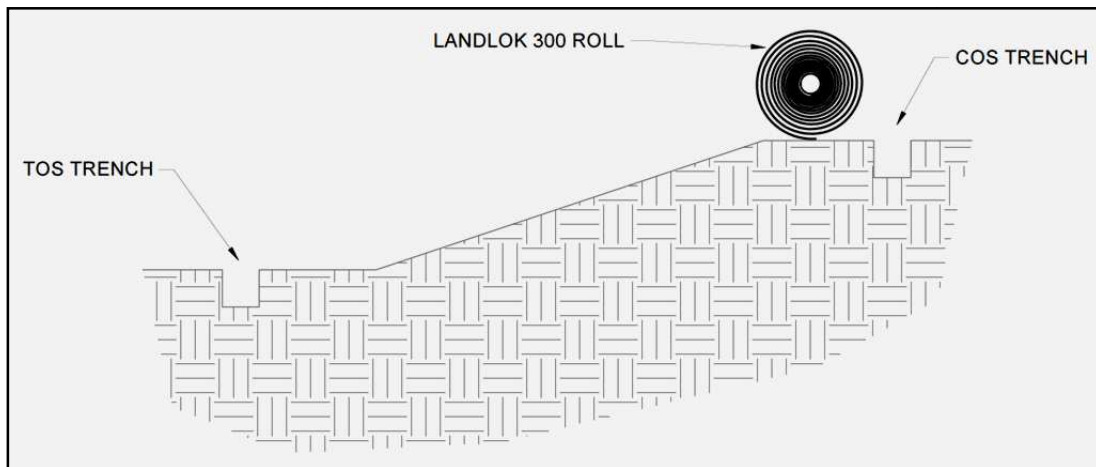
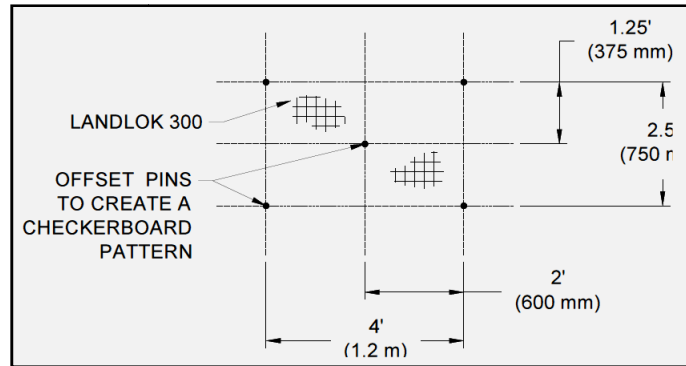
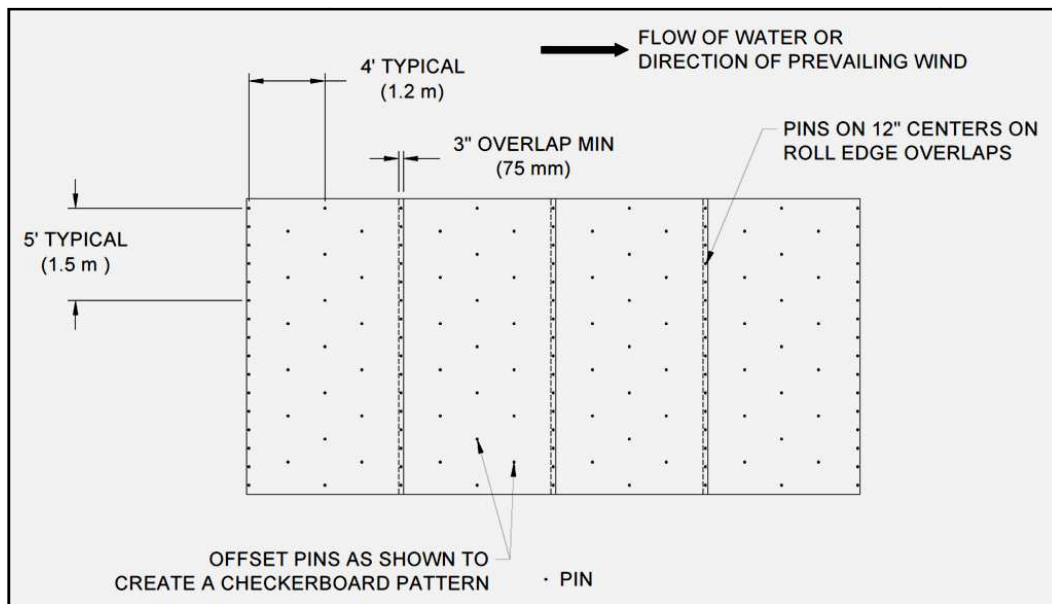

Figure 3: Crest of Slope (COS) Trench Alignment
Figure 7: Example Pin Pattern
Figure 8: Example of Panel Overlap
2. Starting at the COS trench, lay Landlok 300 roll so that the roll ends point towards the crest of the slope (Figure 3), with a 3 inch (75 mm) overlap created at adjacent panel edge locations. Ensure that adjacent panel edges maintain a minimum 3 inch overlap during *Landlok 300 Laydown*. (Figure 8)
6. Secure Landlok 300 panels in place using pins across the slope surface according to the project's engineered design. Pin placement should reflect a staggered checkerboard pattern across the slope surface for best results (Figure 7 and Figure 8).
- Roll edges shall be overlapped a minimum of 3 in (75 mm) with pins placed on 12 in (300 mm) centers (Figure 8).
9. Continue to work down the length of the slope by repeating steps 1 through 8 overlapping each adjacent Landlok 300 panel by 3 inches (75 mm) (Figure 8). The last Landlok 300 panel should terminate on the Slope Armoring Edge (SAE) with pins on 12 in (300 mm) centers. At a minimum, Landlok 300 panels should be pinned entirely across the slope surface, pins should be installed in the trenches, and the trenches should be backfilled and compacted at the end of each day to minimize rework in the case of a major rain event. Specific project conditions may warrant further evaluation of installation order for ease.